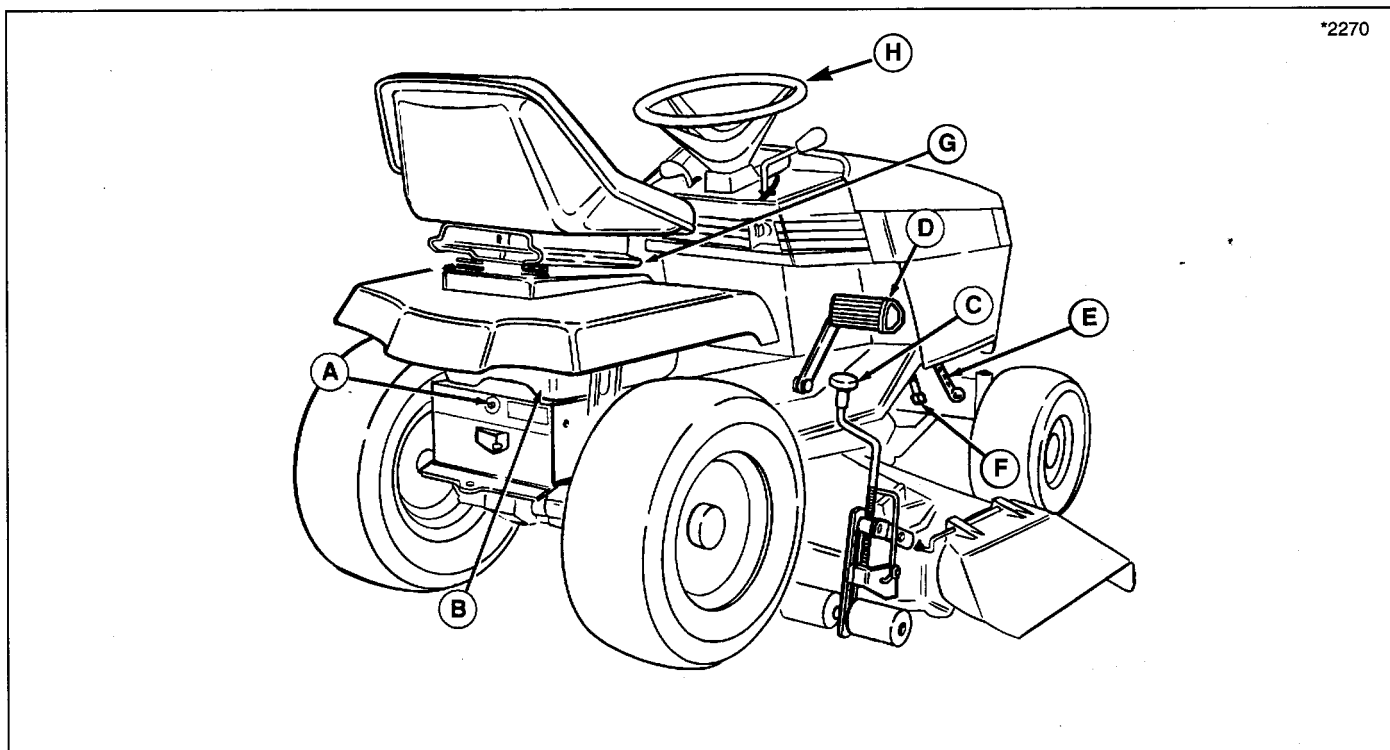

Figure 3. Tractor & Mower Features
2. Place mower in the lowest cutting position using the mower height adjuster (C, Figure 3) in the lowest position, also. Slide mower deck under right side of tractor so that mower hitch is aligned with front tractor hitch.
2. Place mower in the lowest cutting position using the mower height adjuster (C, Figure 3).
2. Use the mower height adjuster (C, Figure 3) to set the proper mowing height. See Mowing Patterns & Tips section for cutting height recommendations.